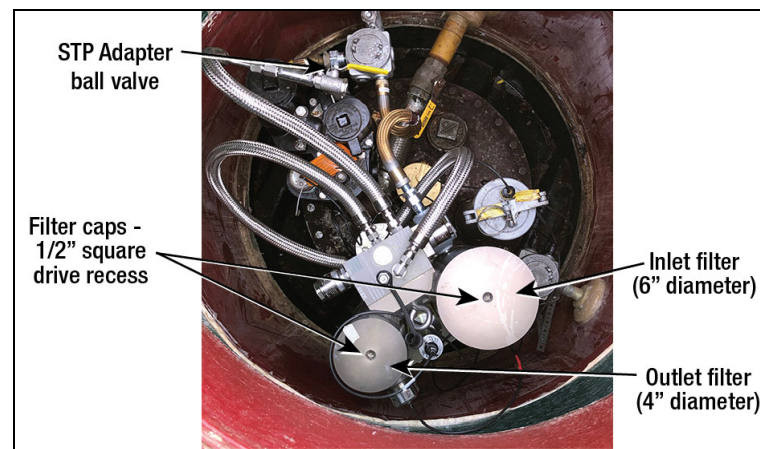

Figure 1.
1. Close STP Adapter ball valve to isolate the Fuel Conditioner unit from the pump (see Figure 1).
9. Re-open the pump STP Adapter ball valve (see Figure 1).